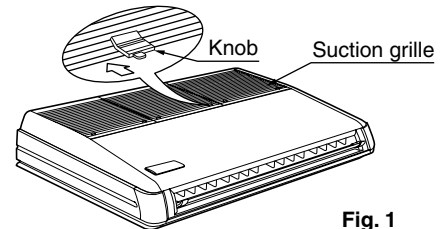

Fig. 1
- (1) Relation of holes for indoor unit, suspension bolt position, piping and wiring.**
- (2) Make holes for suspension bolts, refrigerant and drain pipe, and wire.**
- (3) Remove the parts from the indoor unit.**
- Slide the locking knobs (x2) on the suction grille inward (direction of arrows) and lift upwards. **(Refer to Fig. 1)**